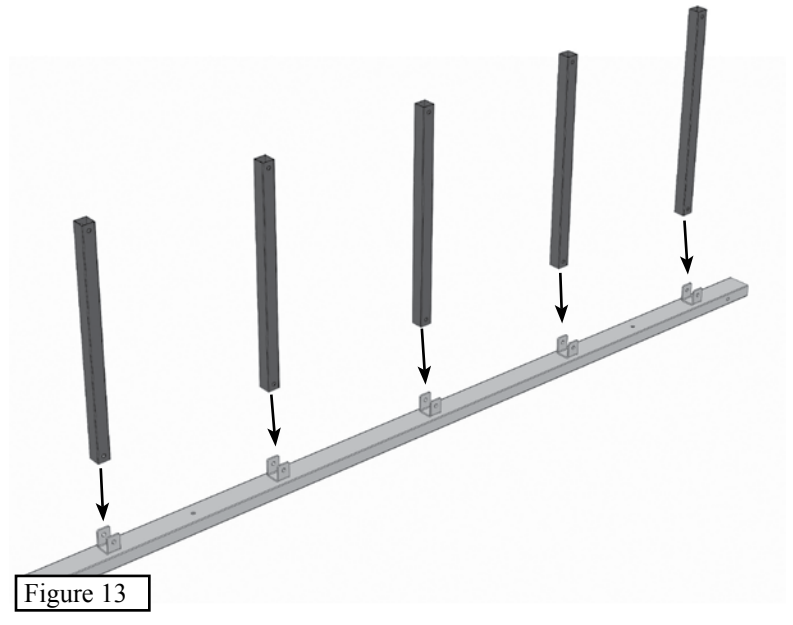

Figure 13
**Step 4.** Arrange one lower ladder support column and five ladder rungs as shown in **Figure 13**. Use five 1 3/4" bolts with lock nuts to secure the rungs to the support column. Hand Tighten these five bolts.